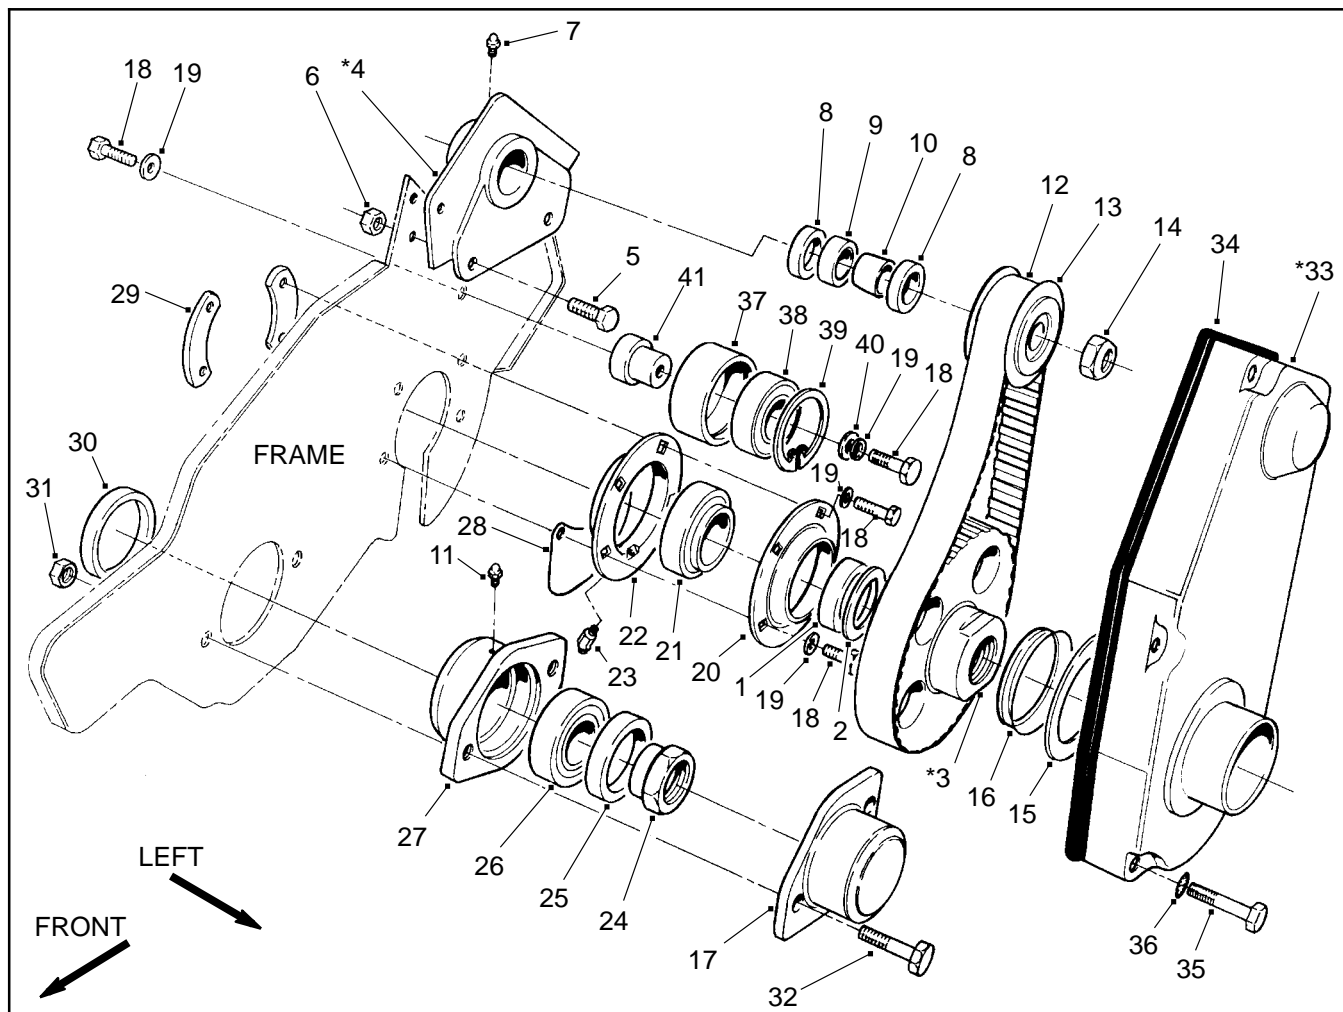
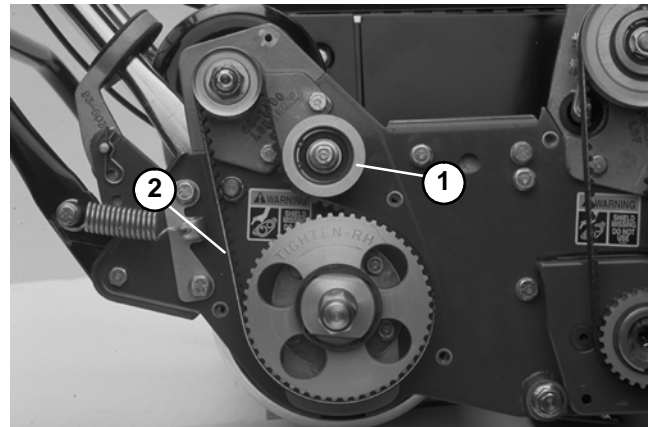

Figure 17
Figure 18
3. Remove cap screws (35), lock washers (36) and drum belt cover (33) to expose the belt (12) (Fig. 17).
4. Loosen cap screw (18) securing the spacer (41) (Fig. 17). Pivot the idler pulley away from the drive belt to loosen belt tension (Fig. 18).
5. Remove drum drive belt from both pulleys (Fig. 18).
2. Place a new drum drive belt onto both pulleys (Fig. 18).
2. Remove cap screw (18) and lock washer (19) from the spacer (41). Remove idler pulley assembly from the clutch housing (Fig. 17).
2. Position cap screw (18) with lock washer (19) into the housing (4). Start cap screw into spacer (41) of the idler assembly until the lock washer just starts to compress. **Do not over tighten (Fig. 17).**